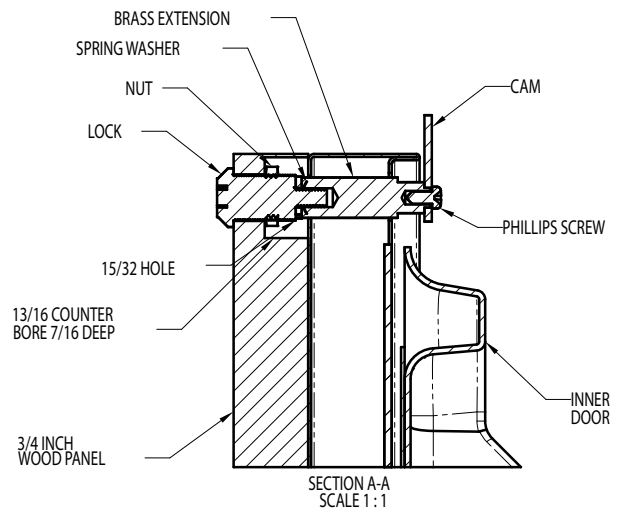

Figure 10
Locate and mark with a pencil the location of the lock hole on the overlay panel, this is the hole in the top corner of the handle side of the door. Remove the clamp and remove the overlay panel from the door. On the backside of the panel where you marked the lock location drill a  $\frac{13}{16}$ " (20.5mm) diameter counter bore  $\frac{1}{16}$ " (11.0mm) deep into the overlay panel. Drill a  $\frac{15}{32}$ " (12.0mm) diameter hole through the overlay panel centered on the counter bore being careful not to splinter the wood on the face side of the panel. (See Figure 10).
Two (2) lock extensions are supplied with the lock. Use the longer extension for a  $\frac{3}{4}$ " thick overlay panel and the shorter one for a  $\frac{5}{8}$ " thick panel. Assemble the lock extension, cam stop washer, spring washer, and set screw to the lock as shown in Figure 10 and 11. Install this assembly into the overlay panel and secure with the retaining nut using a 15mm socket. Make sure the key slot in the lock is vertical.